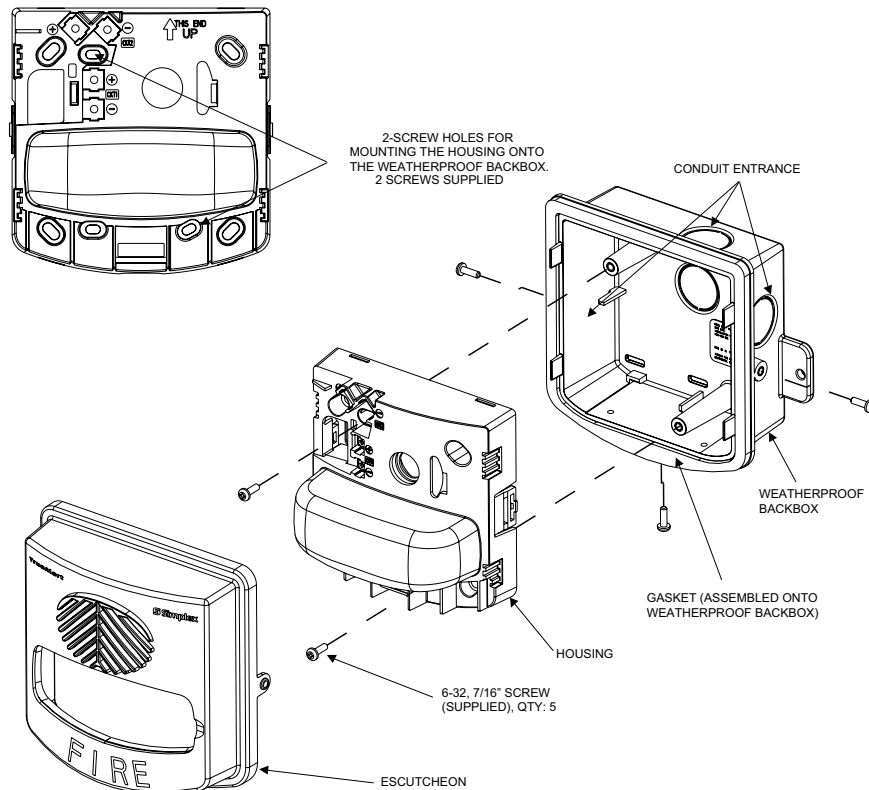

Figure 3. TrueAlert Weatherproof Mounting (A/V Shown)
See Figure 3 for mounting the TrueAlert Weatherproof A/V and V/O units to the weatherproof enclosure.
2. Using the mounting holes indicated in Figure 3, assemble the housing to the weatherproof backbox.
4. Assemble the escutcheon to the weatherproof backbox using the (3) 6-32, 7/16" screws provided. Tighten those snugly, equivalent to a torque of 5-7 in/lbs (do not overtighten).